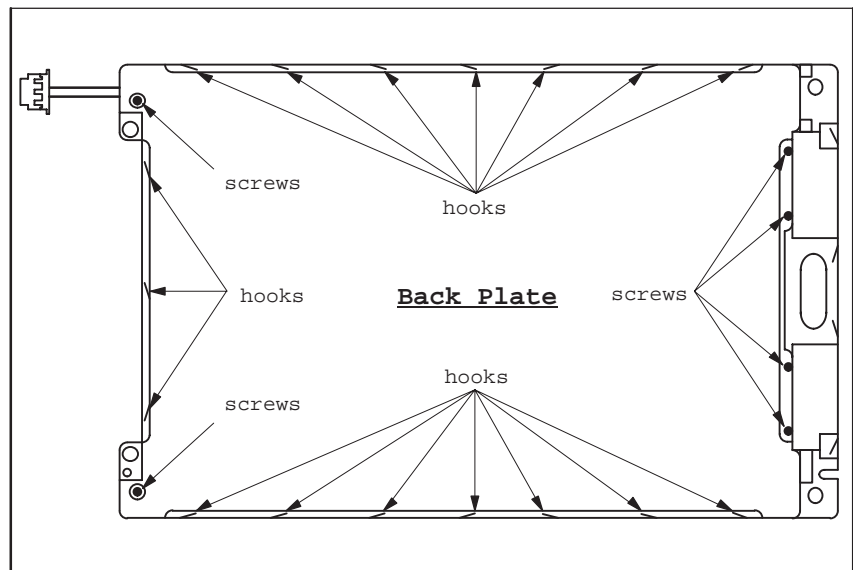

Figure 1-7 Removing the screws and metal hooks
- Align the 17 metal lugs (3 at the left, 7 on top, 7 on bottom - see Figure 1-7).
- Remove the 6 screws as shown in Figure 1-7 (2 left, 4 right).